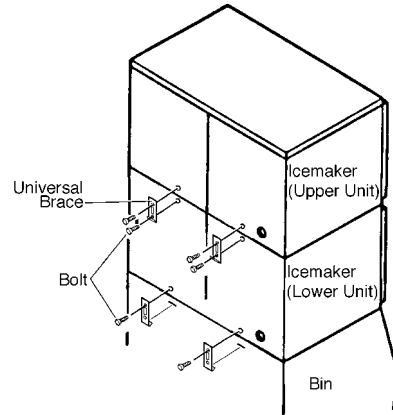

Fig. 4
5. INSTALLATION OF THE SECOND UNIT - See Fig. 4, 5